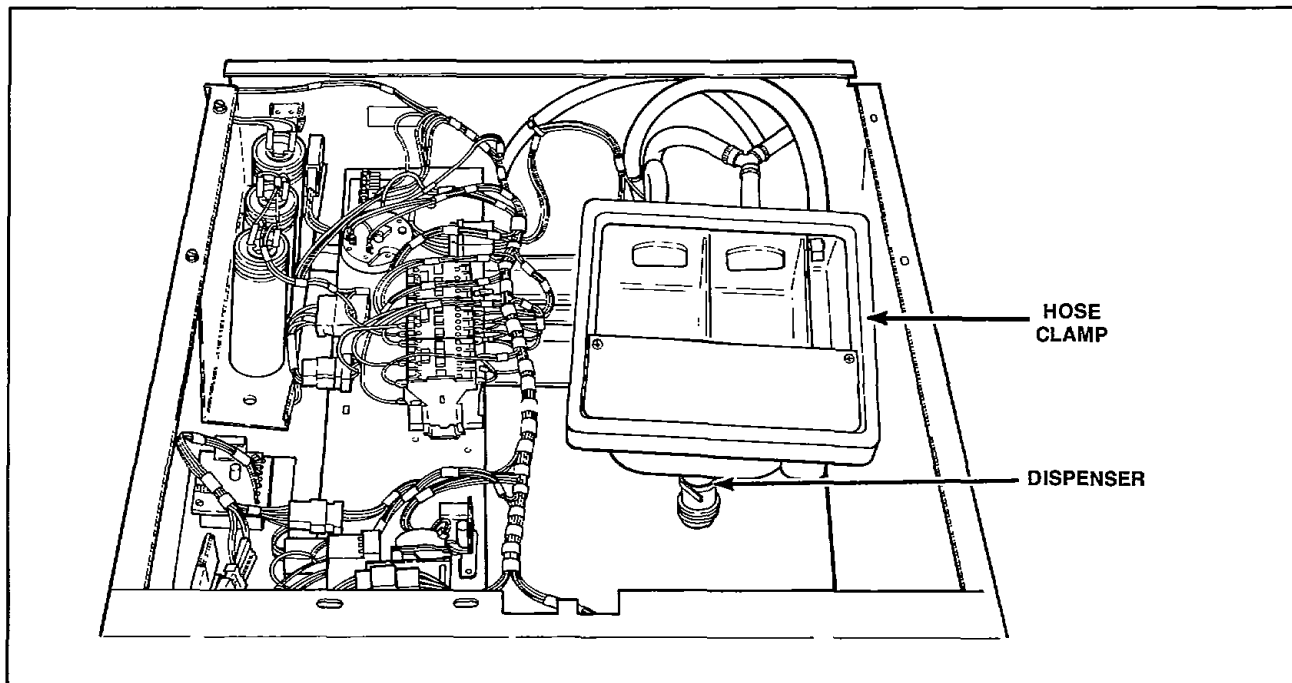

Figure 23
- f. Loosen hose clamps and remove hose from underside of dispenser, *Figure 23*. and remove dispenser.